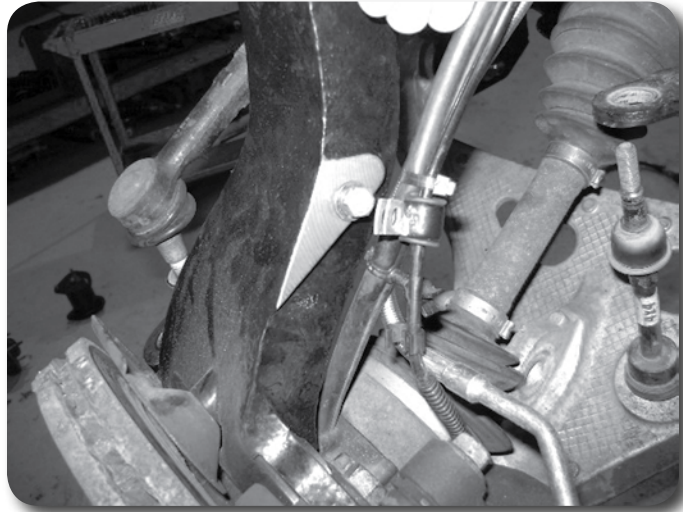

Figure 34
64. Attach the ABS line to the connector at the inner fender and the vacuum line to the hub. Route the lines (include the brake line) down the back of the knuckle and attach with zip ties at the upper control arm. Attach the ABS wire to the side of the knuckle with the provided wire clip, 6mm x 18mm bolt, and 1/4" washer (Figure 34).